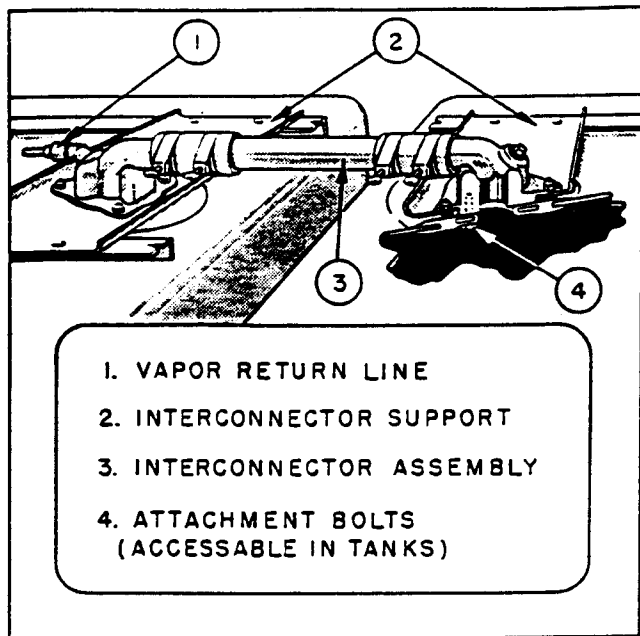

Figure 4. Fuel Cell Vent Interconnectors
(2) REMOVING MAIN FUEL TANKS.- Each of the four main fuel tanks is comprised of two self-sealing fuel cells which are installed in separate compartments. The fuel cells are bolted to hangers installed on the compartment walls. The two fuel cells comprising a main tank are connected together by means of fuel and vent interconnectors (see figures 4 and 5.) The interconnectors, hanger bolts, and fuel line connections are accessible from within the fuel cells. The outboard main tank fuel cells are removed through access doors in the upper surface of the
(e) The fuel interconnectors are secured to the cells by means of a bolt which extends through the center of the connectors from one cell to the other (see figures 4 and 5). Two men are required to remove this bolt; one to hold the head of the bolt in one fuel cell, while the other removes the nut and washer in the other fuel cell. Remove the bolt and connector fittings from each of the two connectors.